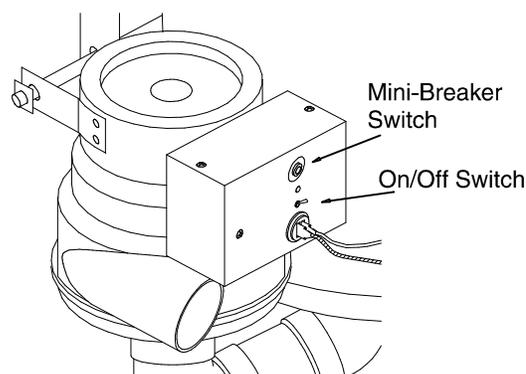

Figure 2
This device can be reset by pushing the small white mini-breaker switch on the front of the motor control box after a short cooling down period. (Figure 2)
- Slide the rubber bumper on the power unit hanger rod. Position the bumper in the center of the rod so the canister will rest on the bumper. (Figure 2)
- Place the 2nd Stage Cloth Bag Filter, and the 1st Stage Paper Bag Filter in the Canister. Place the lid on the canister. (Figure 2)